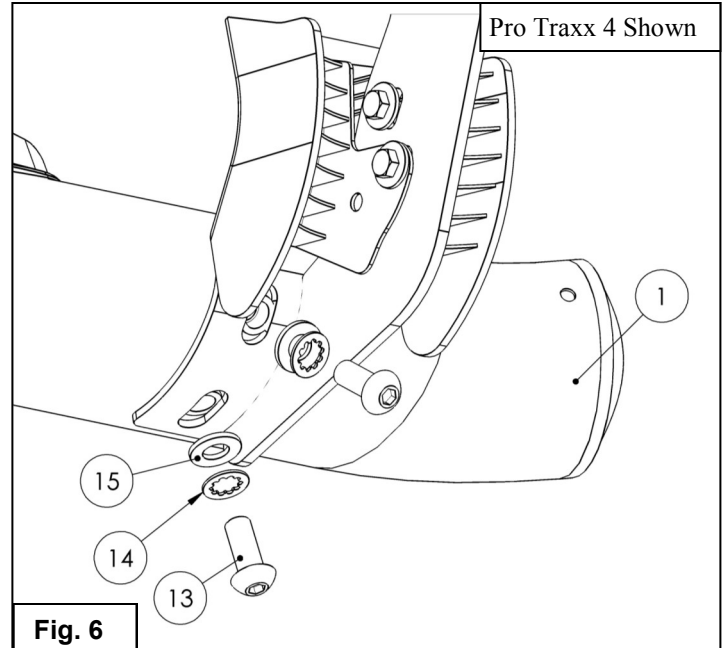

Fig. 6
6. Use the supplied Black M10 Hardware to attach the Step Bras (1,2) to the Mounting Brackets (3-8). See **Figure 6**.